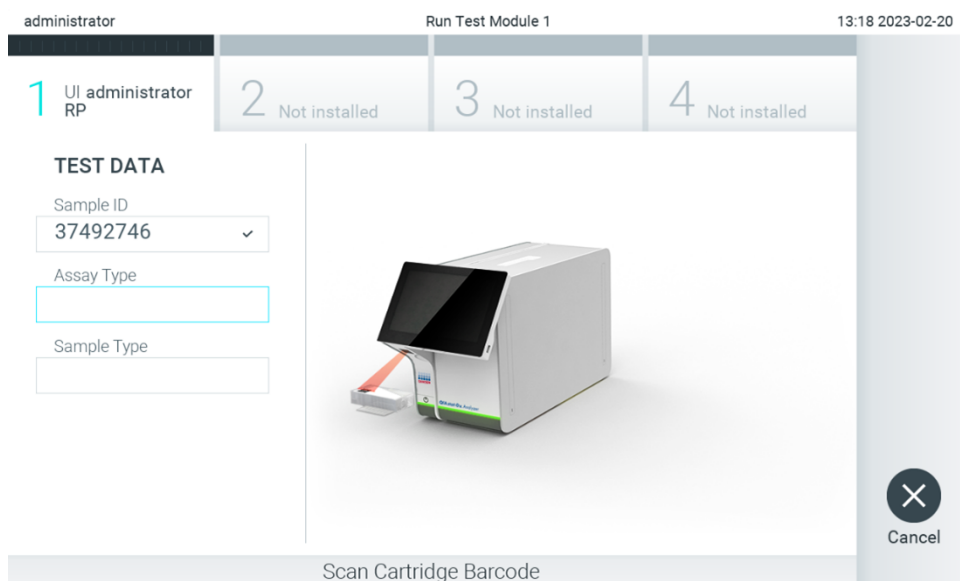

Figure 87. Scanning the QIAstat-Dx assay cartridge bar code.
- When the test order has been successfully received from the host, “Scan cartridge for assay <assay_name> and book order <order_number>” is displayed. Scan the bar code of the specified QIAstat-Dx assay cartridge (Figure 87).